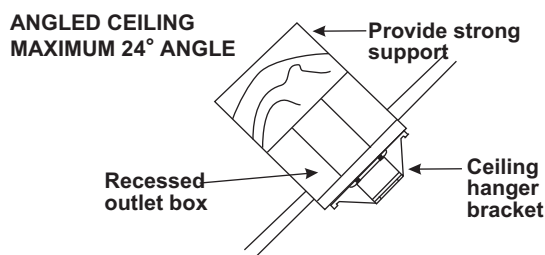

Figure 3
**Note:** You may need a longer down rod to maintain proper blade clearance when installing on a steep, sloped ceiling. (Fig. 3)